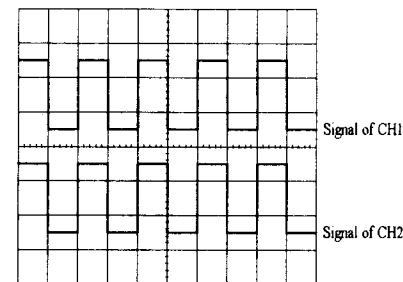

Figure 4-4
Now, apply the calibrator signal to the vertical input terminal of CH 2 with the probe as is the case for CH 1. Set the AC-GND-DC switch to the AC state. Adjust vertical POSITION knobs(11) and (19) so that both channel signals are displayed as shown in Figure4-4.